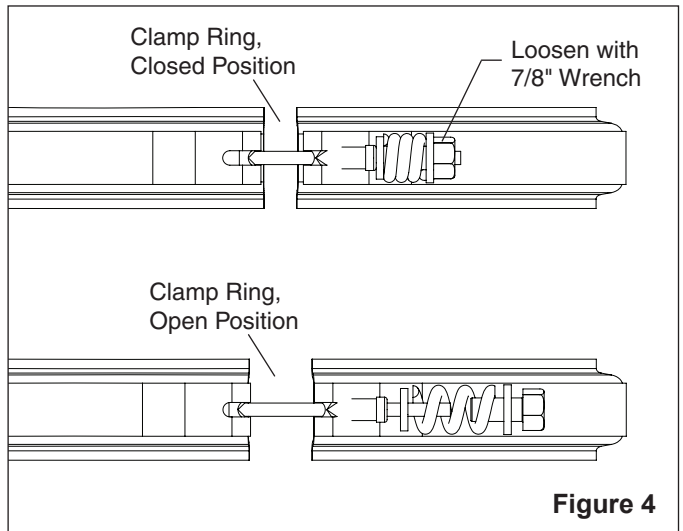

Figure 4
- Loosen the clamp's barrel nut with a 7/8" wrench, allowing the spring coils to decompress. See **Figure 4**. Remove the barrel nut, spring and two washers from the T-bolt and place them in a safe place where they will not be lost.